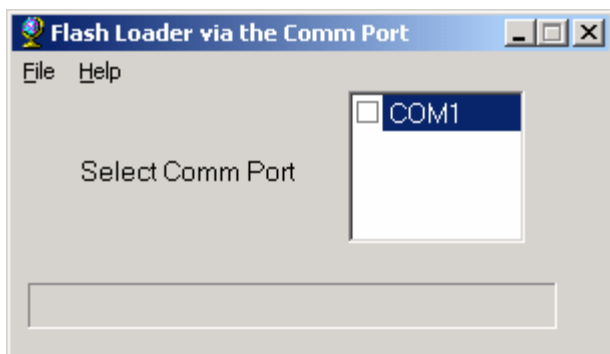

Figure 1-2: Flashloader initial Dialog Box
- 7) Start the Flash Download application (Flashloader.exe) by double-clicking program name in Windows Explorer. This will bring up the dialog box shown in Figure 1-2.